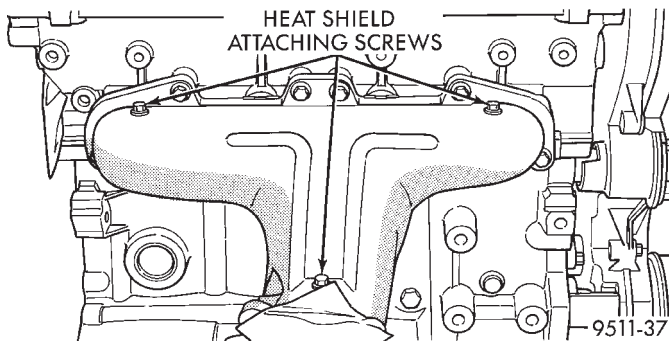

Fig. 28 Exhaust Manifold Heat Shield
(1) Remove exhaust pipe from manifold. It may be necessary to remove the entire exhaust system. Refer to Group 11, Exhaust System for procedure.
(2) Remove exhaust manifold heat shield (Fig. 28).